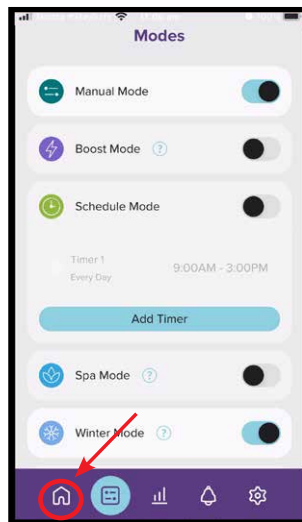

Figure 9.56
- Return to the dashboard now by using the home button (refer Figure 9.56).